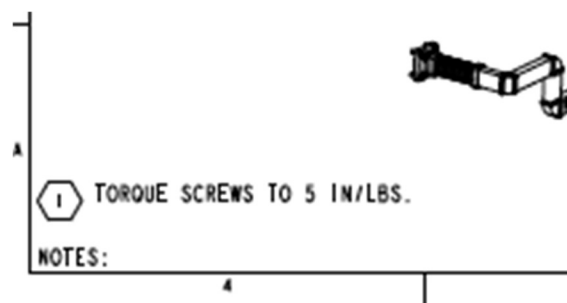

Figure 6 Torque Callout Example
- All hardware used **shall** be in accordance with the installation design and manufacturer instructions. This hardware **shall** be torqued to the appropriate specified values. See Figure 6 for an example of torque callout.